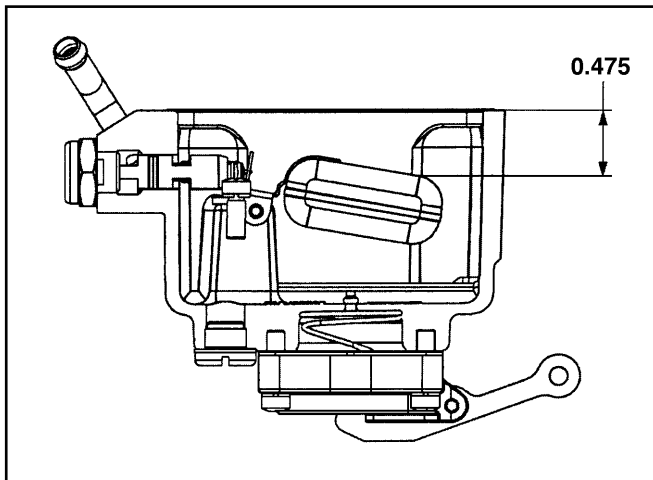

Figure 20. Float Adjustment
- See Figure 20. Press against the float tab until the float is in its full UP position. Measure from the outer end or “toe” of the float to the top edge of the fuel bowl. This measurement should be .475 inch. To adjust, loosen the needle and seat lock screw and turn the adjusting nut clockwise to lower the level and counter-clockwise to raise the level. Retighten the lock screw.